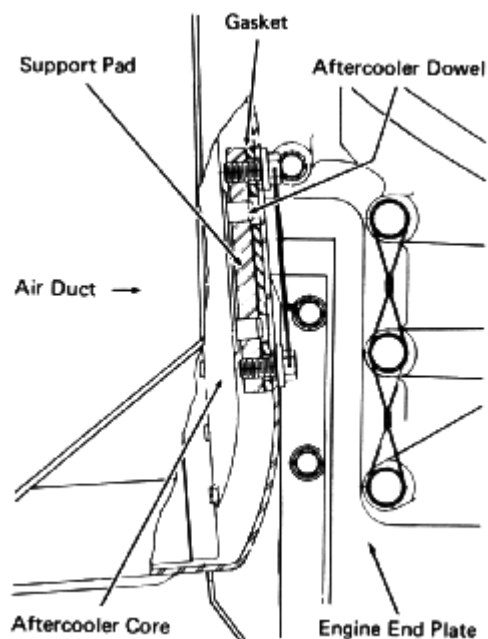

Fig. 10-5 - Air Duct Support Pad Application
4. Line up the support pad bolt holes, Fig. 10-5, at the back of the air duct and apply, but do not tighten the support pad bolts.
6. When the aftercooler flange bolts have been tightened, tighten the support pad bolts at the back of the air duct, Fig. 10-5, to 176 N-m (130 ft-lbs) and lockwire.